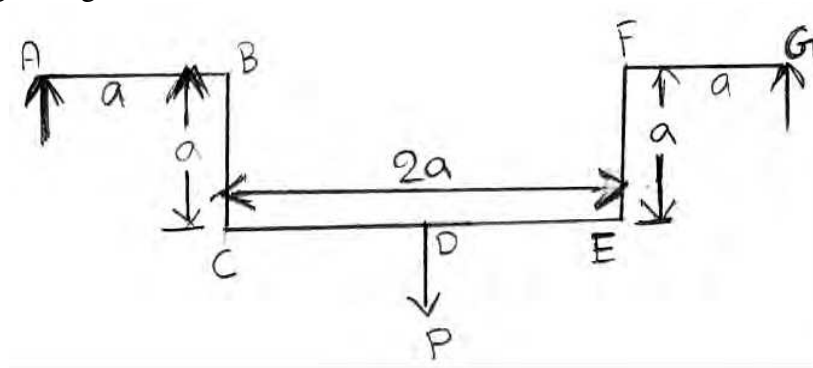

Figure 7:
7. Find the central deflection of the uniform bend ABCDEFG shown in figure 7 by using Castiglano theorem. [16]